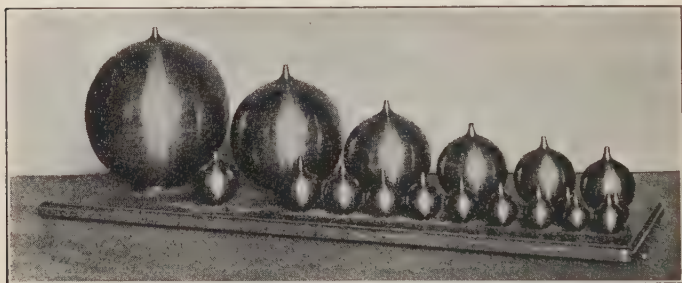

FIGURE 251. — HELMHOLTZ RESONATORS.
*Resonance is the reënforcement of sound by sympathetic vibration.* When the loud pedal of a piano is depressed and a tone sung into the instrument, the particular string in tune with the voice will respond. A sea shell held to the ear reënforces by sympathetic resonance such slight noises in the air as are in tune with the shell. Out of all the sound waves that pass the opening of the shell, only those are reënforced that vibrate in unison with the air in the shell. Upon this principle the Helmholtz spherical resonators (Figure 251) are based. They will respond only to tones which have